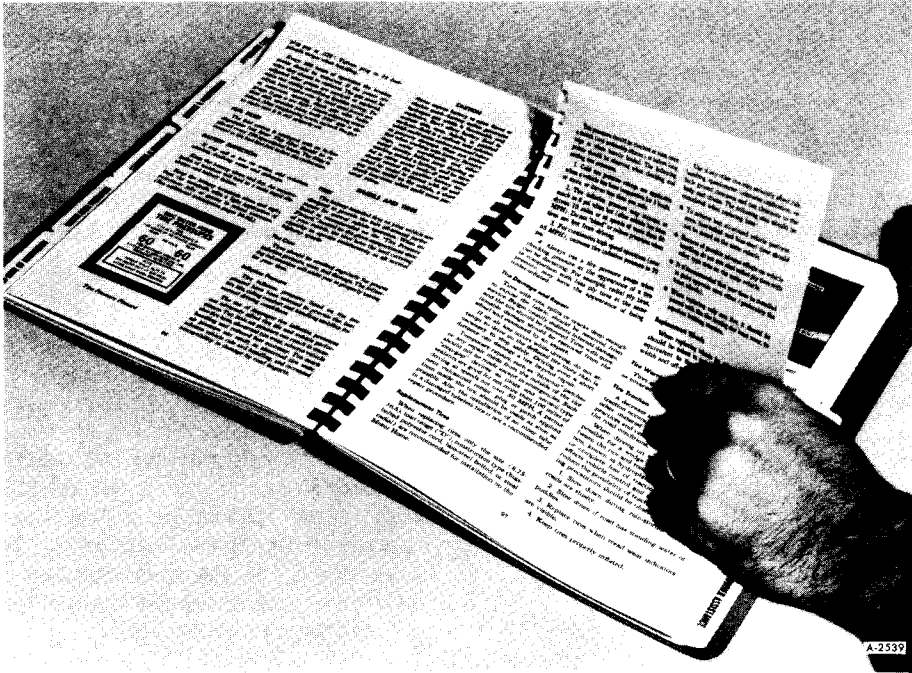

Figure 1
1. Remove page 97 and 98 from Motor Home Operating Manual, as shown in figure 1.